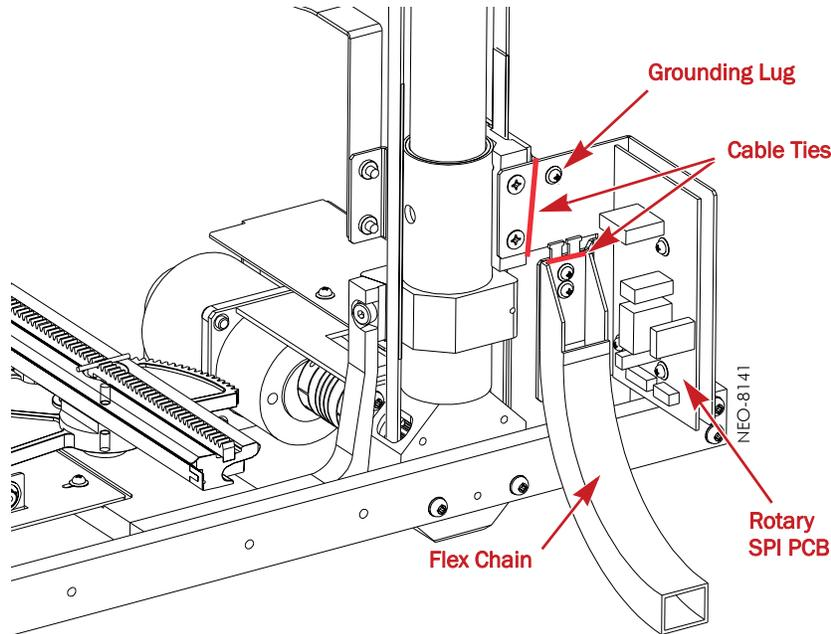

Figure 3. PCB Location on Rear Z-Axis Assembly
- Cut both the **mounting bracket** and **flex chain** cable ties (Figure 3).